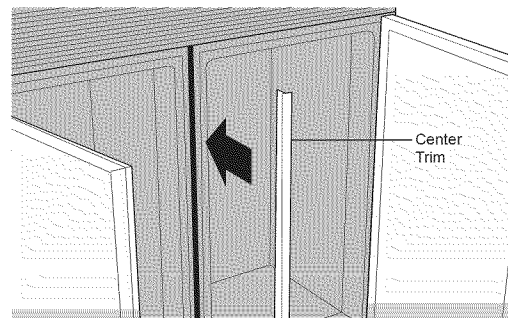

Figure 17
- Re-check the level of each unit. Depending on the flatness of your floor, you may need to readjust several times before achieving an acceptable state of levelness and alignment. Allow 3/8" gap between units for center trim (G or H). See Figure 17.